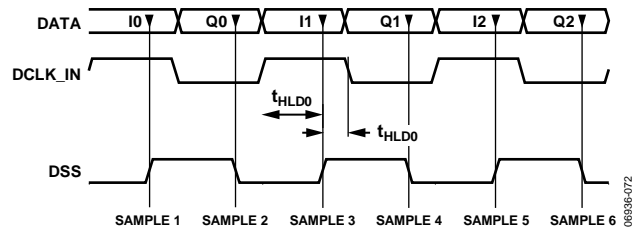

Figure 57. Timing Diagram of Parallel Interface
2. With SMP and SET set to 0, increment the HLD value until the SEEK bit toggles and record the HLD value. This measures the hold time as shown in Figure 57.
3. With SMP and HLD set to 0, increment the SET value until the SEEK bit toggles and record the SET value. This measures the setup time as shown in Figure 57.